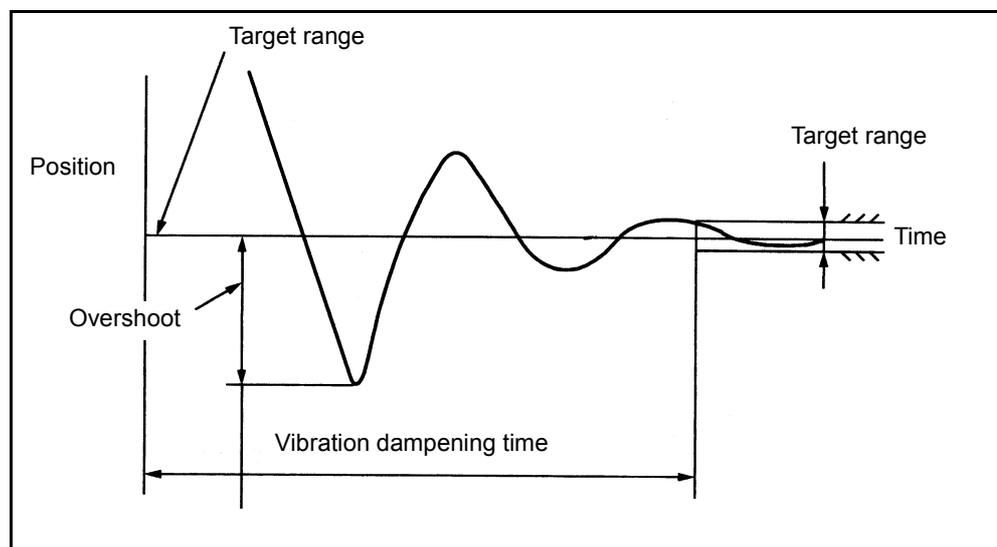

Figure 1-26 Vibration Dampening Time
3. After the robot moves to and passes the target positioning point, vibration will be dampened and the robot positioned at the target positioning point as shown in Figure 1-26. This vibration dampening time is not considered in the graph.
- Caution (1)** The vibration dampening time depends on factors such as the weight of the end-effector. If the robot is to be used in such a way that it overshoots or if the vibration dampening time is of great concern, test the robot carefully beforehand.